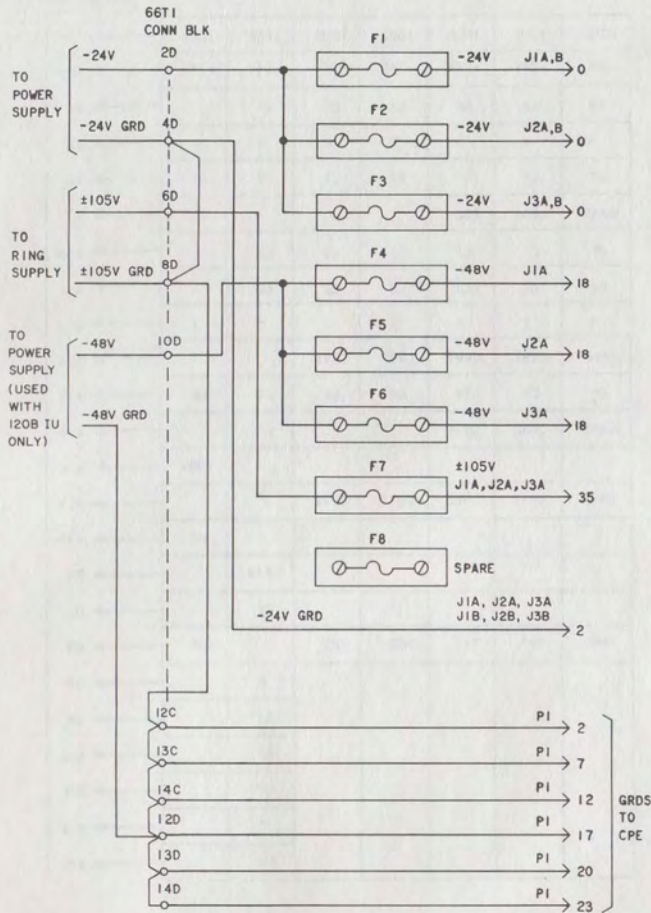

Fig. 5—Fuse and Power Distribution
**2.04** The fuse and power distribution is shown in Fig. 5 and Table B. The 615A panel is designed to be used with a 24-volt or 48-volt power supply. The latter is used only when 120-type IUs arranged for 48-volt operation are installed.
**3.05** Use 20-gauge wire to connect either telephone company or CP ringing supply and 24-volt or 48-volt dc power to the terminals on the 66T1 connecting block as shown in Fig. 5 and 6 and Table C. Customer-provided 24-volt or 48-volt dc power must be routed through a KS-20944 protector before connecting to the power terminals on the 615A panel. Refer to Section 463-300-109 for information on the KS-20944 protector. If the customer furnishes 48-volt dc power, the 604B panel or the 604C with 21 apparatus unit installed must be used instead of the 615A for 101, 102, and 108-type IUs.
**4.02** Refer to Fig. 5 and Table C for connections to power supplies.